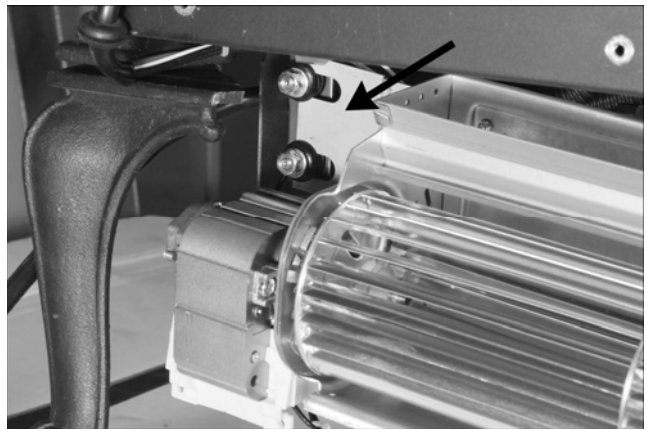

Figure 11
12. Turn the fan assembly so the discharge chute is facing up and the impeller is facing toward you. Push the slots in the left edge of the fan mounting plate into the grooves of the grommets secured to the two threaded studs. See Figure 11. Route the wires from the control box on the back of the stove over the top of the fan mounting plate at the left side.